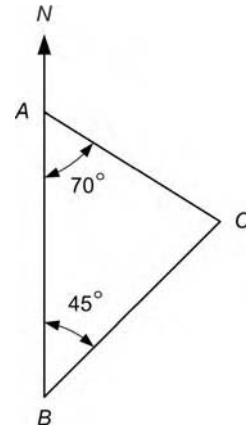

Figure 2.54
80. In the triangle ABC shown in Figure 2.54, the bearing of B from C is: [B1, B2]